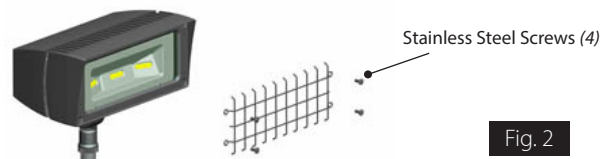

Fig. 2
Wire Guard and Poly Shield mount with (4) #8-32 **Stainless Steel Screws**. Screws are provided with accessory. See **Figure 2** for Guard. See **Figure 3** for Shield.